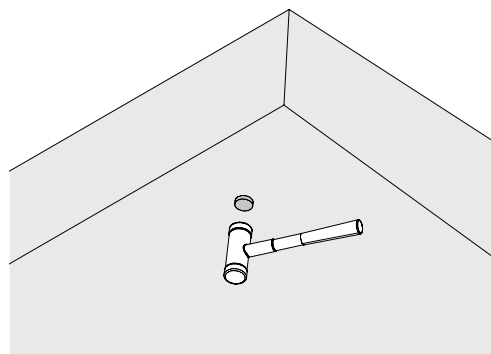

Fig. 18b
3. Insert the Plug FRC into the opening and tap it into the tie hole with a rubber mallet until it is flush. (Fig. 18b)